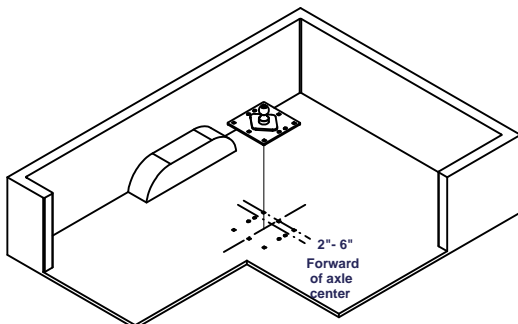

FIGURE 2
4. The hitch ball must be centered in the truck bed (Figure 2).